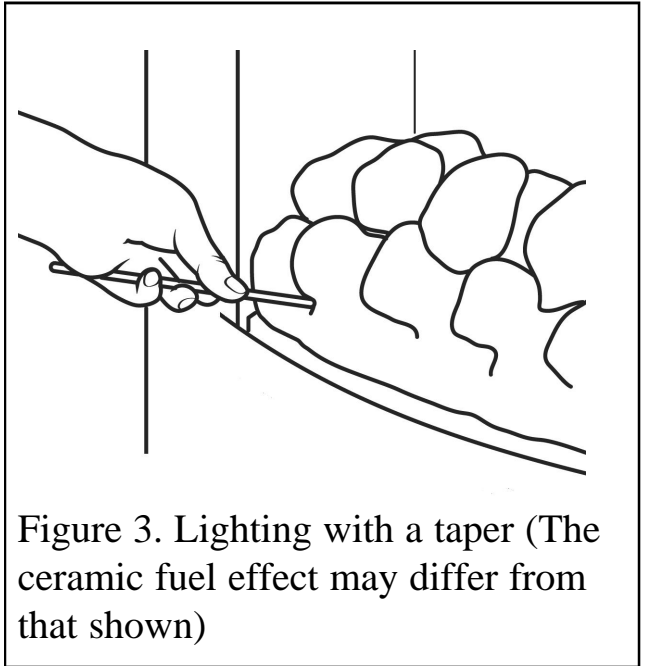

Figure 3. Lighting with a taper (The ceramic fuel effect may differ from that shown)
- If the spark ignition fails, the fire can be lit manually by inserting a lighted taper through the ceramic fuel effect at the front left side (as shown in figure 3) and depressing the control knob at the "PILOT/IGN" position. Ensure that the fan is on. Note: If the fire goes out while setting the control, repeat the full lighting procedure. If the fire repeatedly goes out, have the fire serviced.